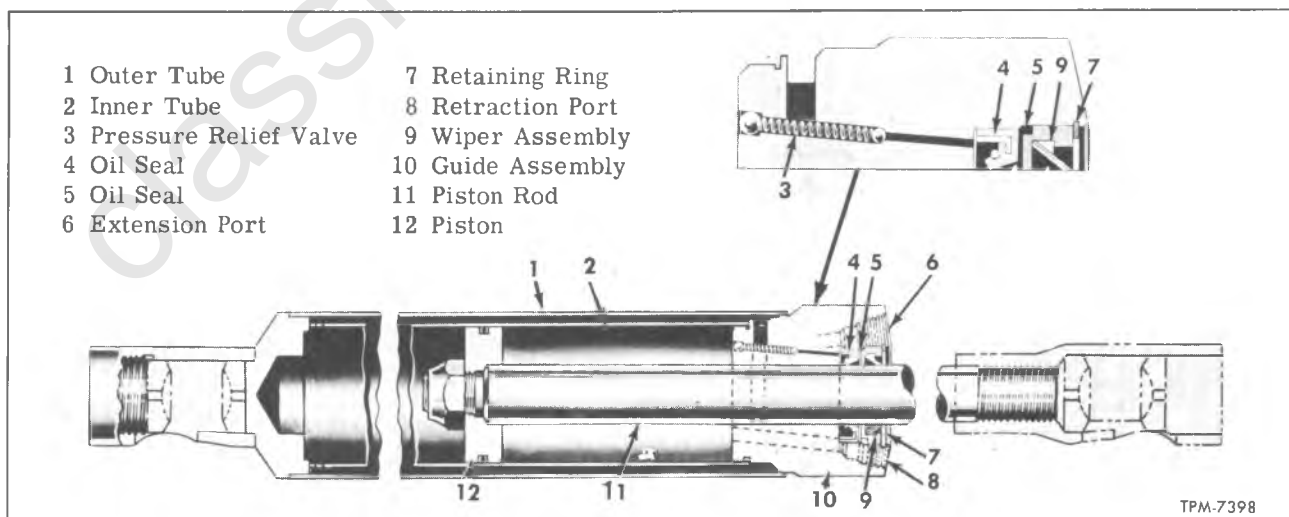

Figure 11—Power Cylinder (Typical)
REMOVAL (Fig. 11)
6. Apply air pressure to the retraction port in the guide assembly while at the same time holding a finger over the extension port (fig. 11). This will dislodge wiper ring assembly, scraper retainer, scraper retainer O-ring seal, and piston rod seal from the guide assembly.
ASSEMBLY (Refer to Fig. 11)